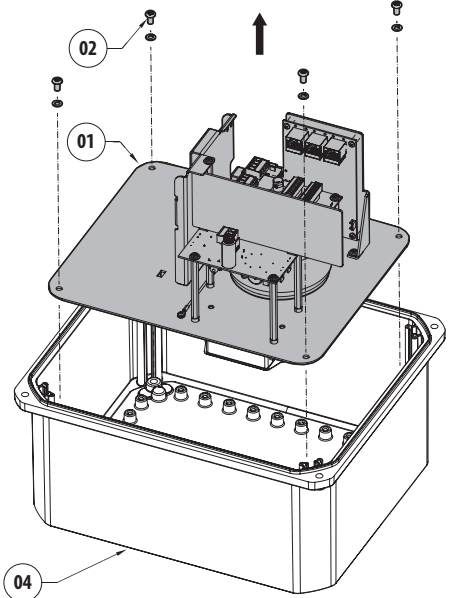
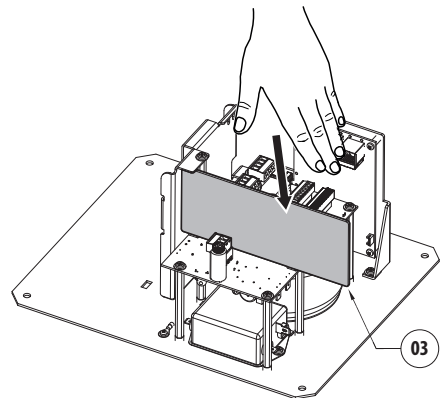

Fig. 7
Fig. 8
Hold the board division plate (03), lift the internal block (01) and remove the box (04) (Fig. 7, page 11 and Fig. 8, page 11).